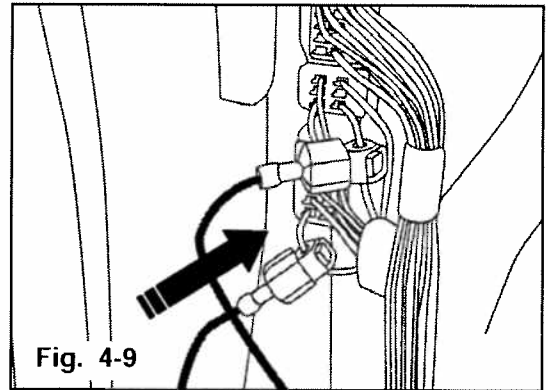

Fig. 4-9
- a) Insert male spade terminal of **Solid Black** wire into opening of wire tap on the **Blue / Red-striped** wire. (Fig. 4-9)